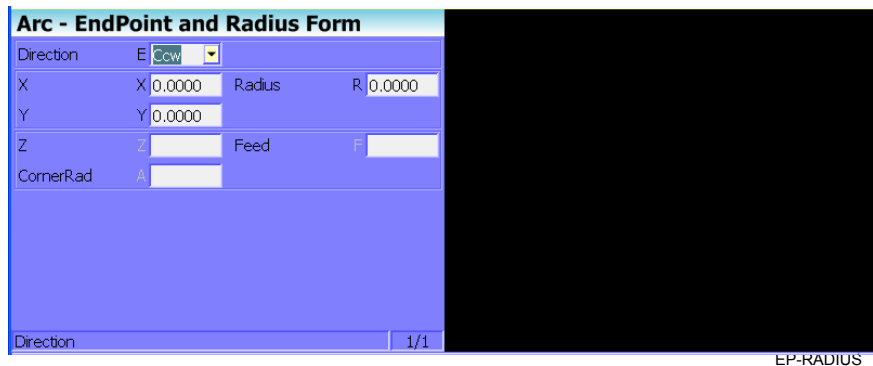

Figure 3-15, Arc – EndPoint and Radius Graphic Menu
4. Highlight **Arc – EndPoint and Radius Form** and press **ENTER** to display the graphic menu. Refer to **Figure 3-15**.